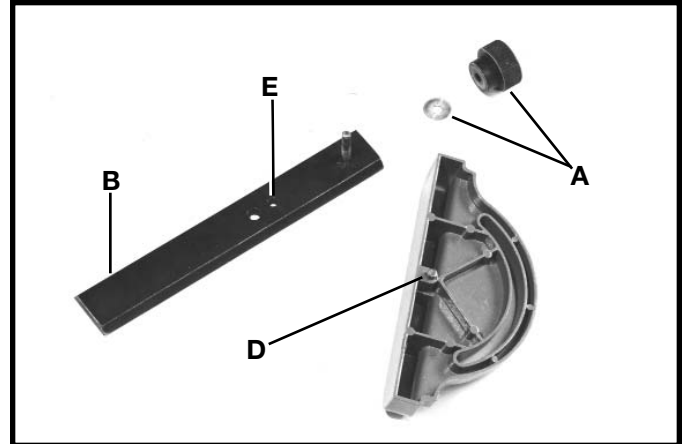
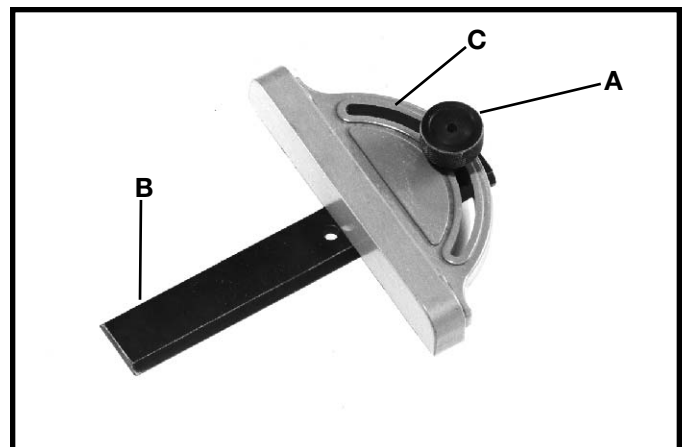

Fig. 9
Fig. 10
1. Remove knob and flat washer (A) Fig. 9, from threaded rod of miter gage bar (B).
2. Place miter gage body (C) Fig. 10, over threaded rod of miter gage bar (B) and reassemble flat washer and knob, which were removed from miter gage bar (B) in STEP 1. **NOTE:** Make certain pin (D) Fig. 9, located on underside of miter gage body (C) engages hole (E) in miter gage bar (B) when assembling miter gage.